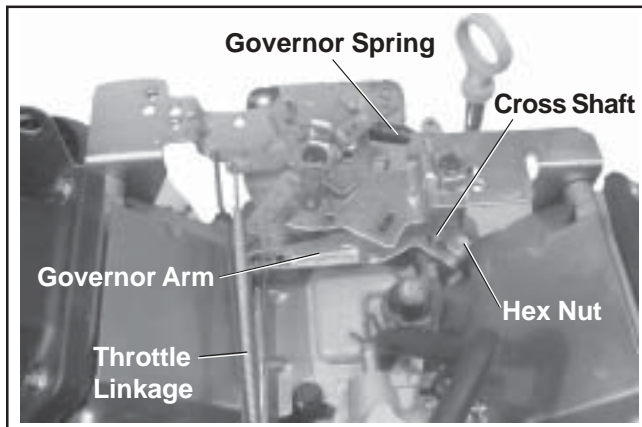

Figure 5-39. Governor Linkage.
- One end of the cross shaft protrudes through the crankcase. The rotating action of the cross shaft is transmitted to the throttle lever of the carburetor through the external throttle linkage. See Figure 5-39.
Make this adjustment whenever the governor arm is loosened or removed from the cross shaft. See Figure 5-39 and adjust as follows: